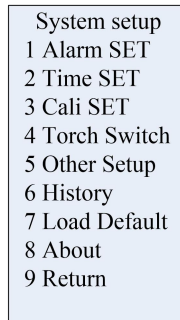

Figure 3.14 Text interface.
**Interface style:** You can set the interface style to a text interface or an icon interface. Once you've selected the text interface, go to Figure 3.14: